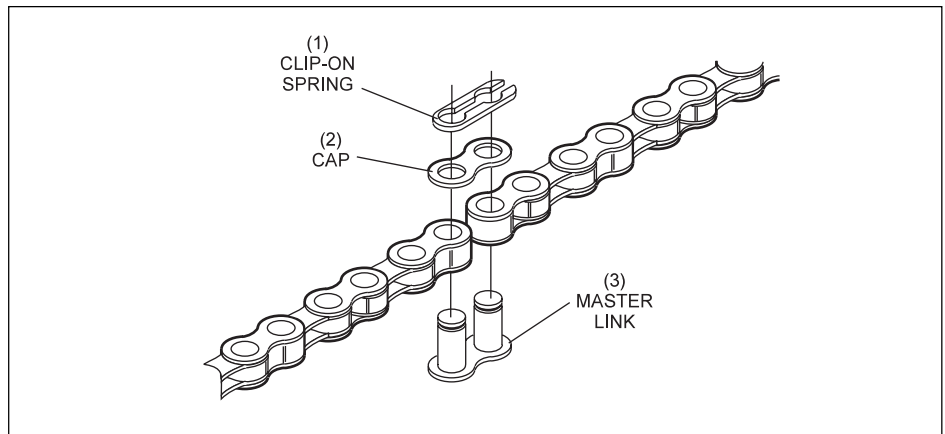

Figure 8-22. Chain Repair.
6. Place the cap on both pins of the master link. Refer to Figure 8-22.